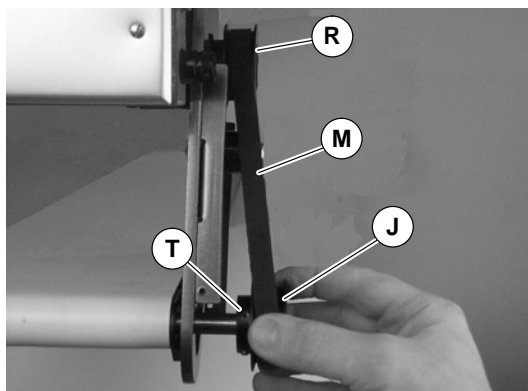

Figure 12
3. Remove timing belt (M of Figure 12).
NOTE: If timing belt does not slide over pulley flange, loosen driven pulley set screws (T of Figure 12) and remove pulley with belt. For re-installation, see steps 5 through 8 on page 5.